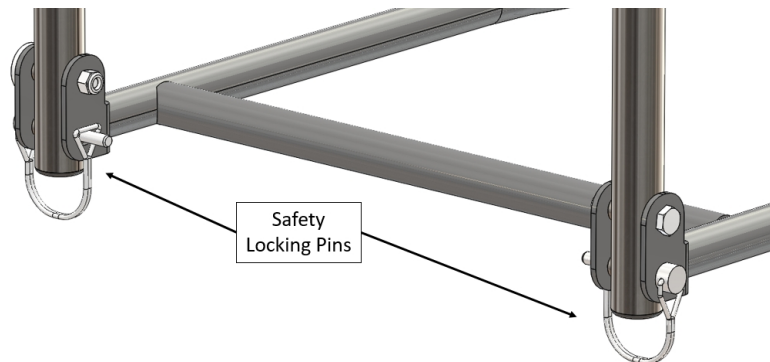

Figure 3
5. After Safety Lock Pins have been re-inserted through the aligned holes, rotate the wire loop over the end of the Safety Lock Pins as shown in Figure 3.